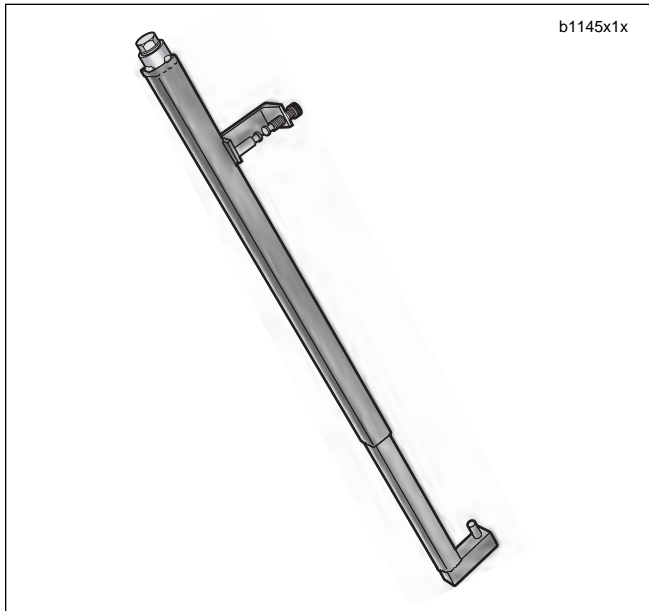

Figure 2-68. Fork Spring Compressing Tool (HD-45966)
6. See Figure 2-68. Move the fork assembly from the holding tool and compress fork in the FORK SPRING COMPRESSING TOOL.
8. Remove preload washer (4) and slider piston (5).
9. See Figure 2-68. Uncompress fork and remove from FORK SPRING COMPRESSING TOOL.